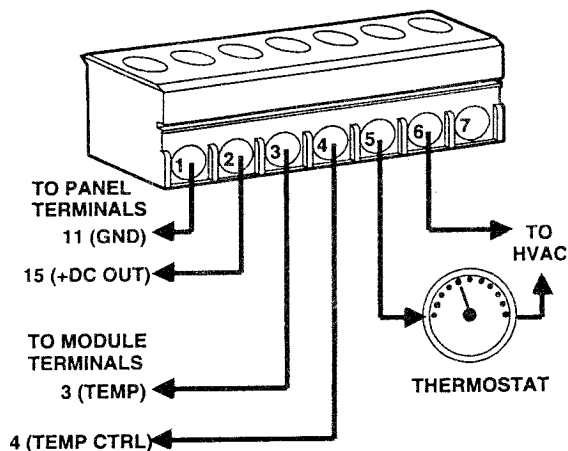

Figure 4. ESM Wiring Connections to CareTaker *Plus*
- 4) Connect wires as shown in Figure 4. Table 2 describes the wiring connections shown in Figure 4.